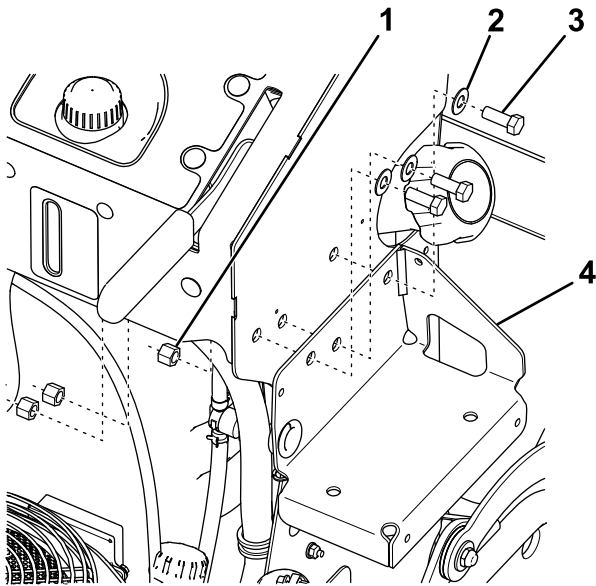

Figure 6
- Secure the hydraulic manifold mounting bracket to the machine using 3 bolts (3/8 x 1 inch), 3 flat washers, and 3 nylon locknuts (Figure 6).